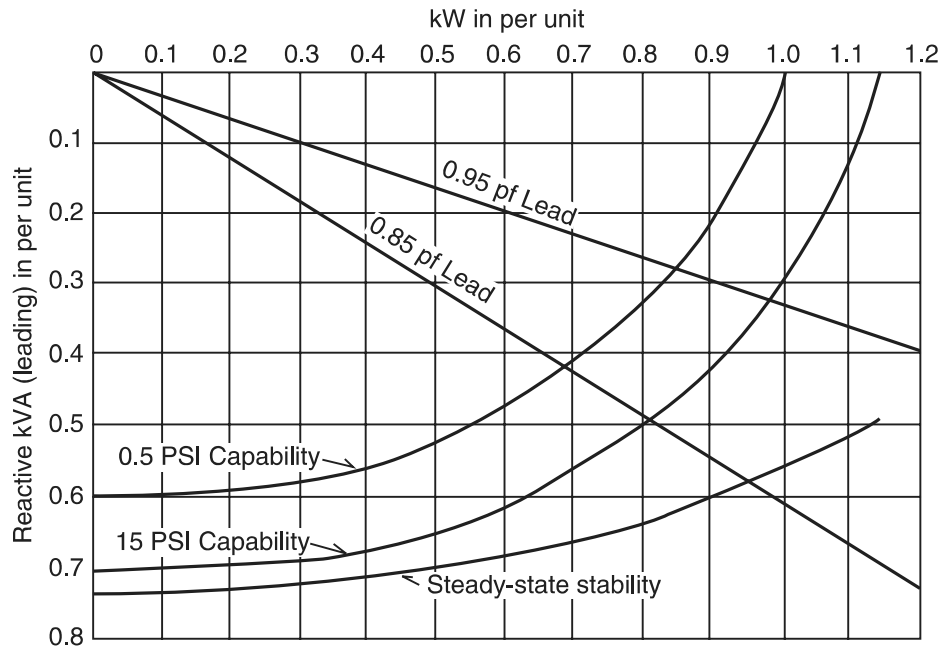

FIGURE P8.3
- 8.3** The per-unit kVA capability and steady-state stability curves at rated terminal voltage for a 50 MVA, 13.2 kV, 60 Hz generator are shown in Figure P8.3. The current transformers used are 3000:5. For loss-of-excitation protection: